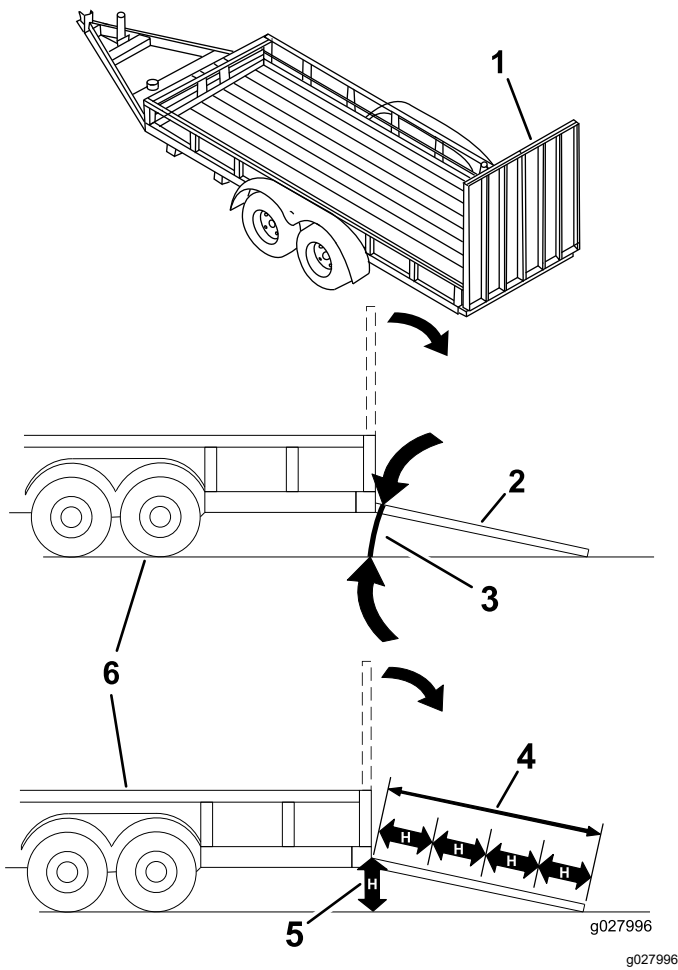

Figure 38
6. To run the machine, move the bypass knobs to the FORWARD position and lock them into place (Figure 38).
Loading a machine onto a trailer or truck increases the possibility of tip-over and could cause serious injury or death (Figure 38).
3. Lower the ramp, ensuring that the angle between the ramp and the ground does not exceed 15 degrees (Figure 38).
1. Lower the ramp, ensuring that the angle between the ramp and the ground does not exceed 15 degrees (Figure 38).